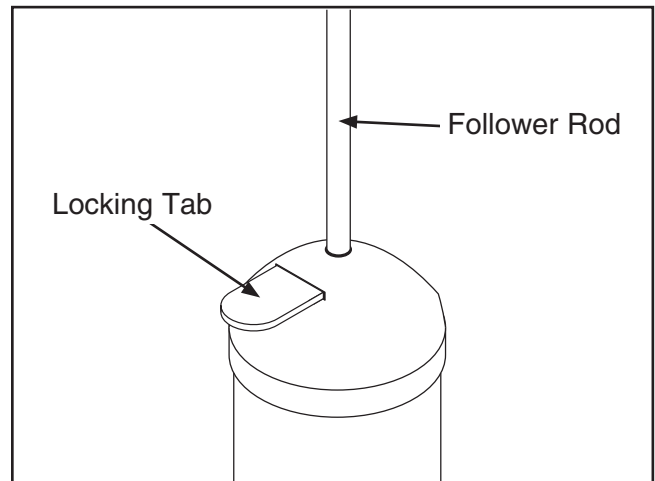

Figure 4. The follower rod and locking tab
2. Pull the follower rod back until it is fully extended; the locking tab will automatically hold it in place (**Figure 4**).
5. After ejecting the used cartridge, pull the follower rod back until it is fully extended, and allow the locking tab to hold it in place (**Figure 4**).
2. Pull the follower rod back until it is fully extended, the locking tab will automatically hold it in place (**Figure 4**).
8. When the follower rod is fully extended, allow the locking tab to hold it in place (**Figure 4**).
2. Pull back on the follower rod until it is fully extended (**Figure 4**).